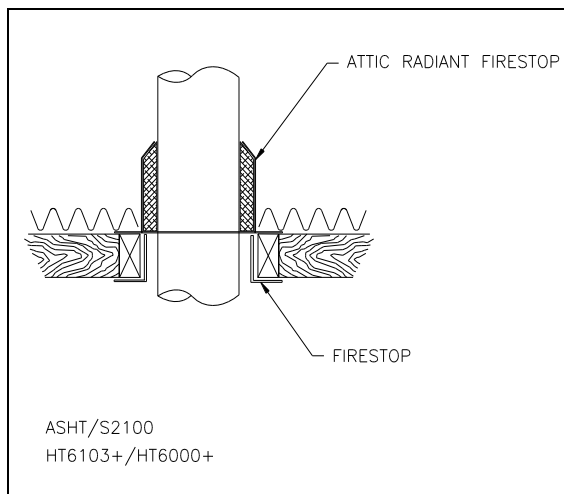
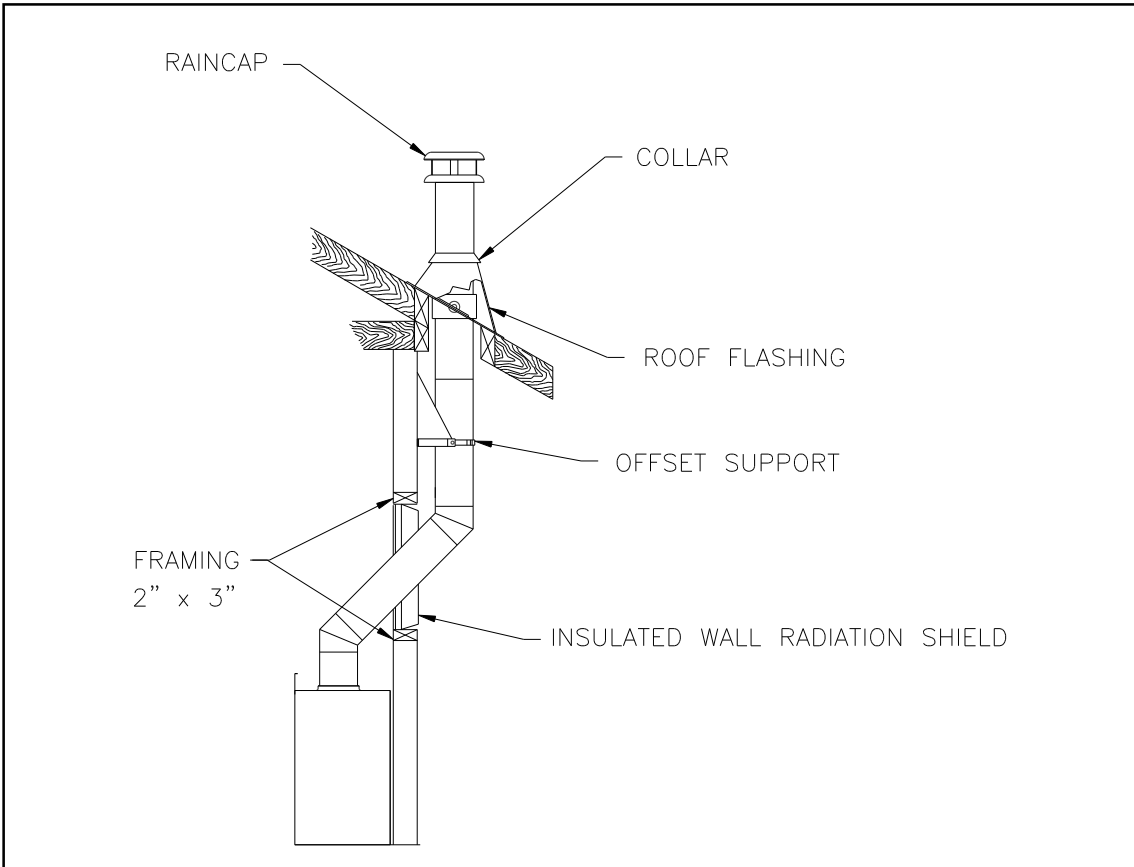

Figure 26
Figure 32
2. From below, install a firestop in each ceiling/floor separation through which the chimney will pass. At the attic level, install an attic radiation shield from above (figures 26 & 27).
1. Install the first elbow; turn it in the required direction. Fasten it to the chimney with the three (3) $\frac{1}{2}$ " (12 mm) metal screws provided with the elbow.
2. Install the necessary chimney lengths to achieve the required offset. Lock the chimney lengths together: it is recommended to use three (3) $\frac{1}{2}$ " (12 mm) screws. If the offset length is made of two (2) chimney lengths or more, use an offset or roof support halfway up the offset. If penetrating a wall, install a wall radiation shield (see figures 32 & 33).
3. Use another elbow to turn the chimney vertically. Secure the elbow, using three (3) $\frac{1}{2}$ " (12 mm) screws (provided with the elbow).
5. From below, install a firestop (See figure 26).